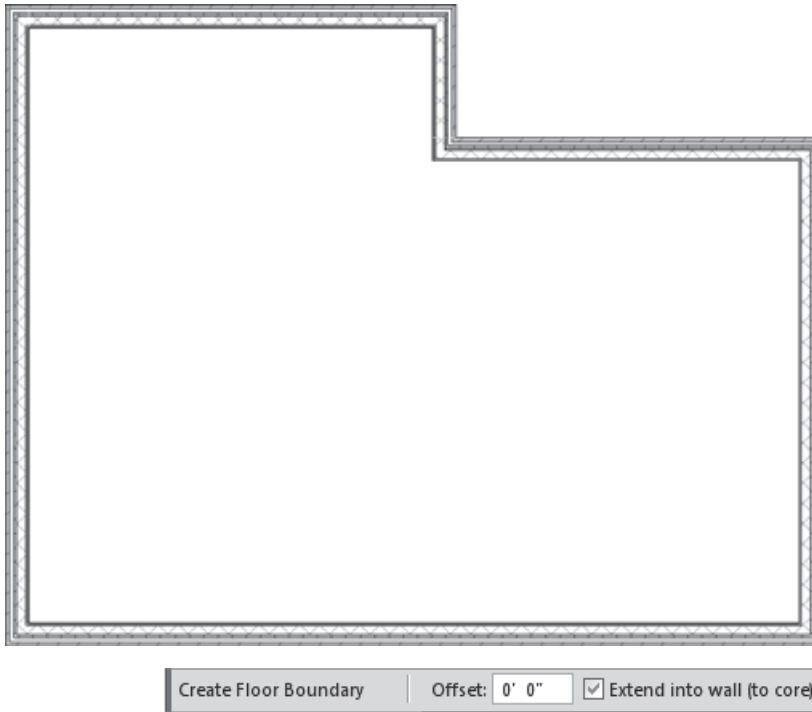

Figure 6.3
3. On the Build panel of the Home tab, select the Floor tool, keep the default selected Pick Walls tool in the Draw panel, and in the Options bar (Figure 6.3) check the Extend into Wall (To core) option.